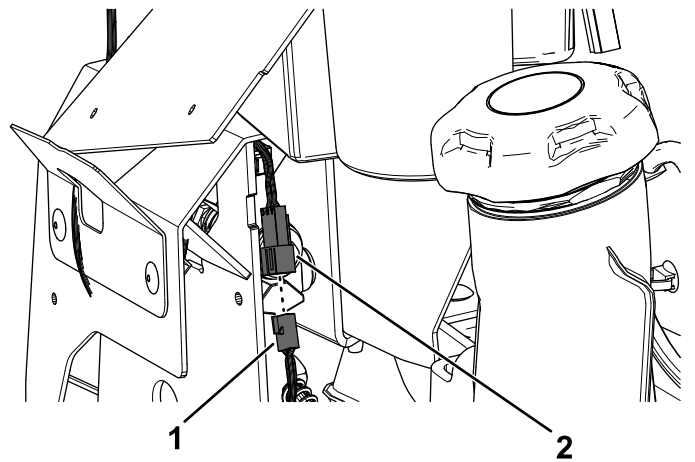

Figure 22
2. Connect the kit wire harness connector to the new left motion-control lever connector (Figure 22).